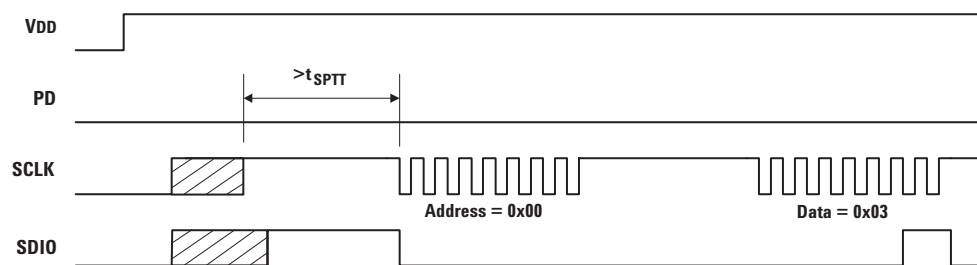

Figure 35. Power up serial port watchdog timer sequence.
1. Serial port watchdog timer timeout (Refer to Figure 35.)